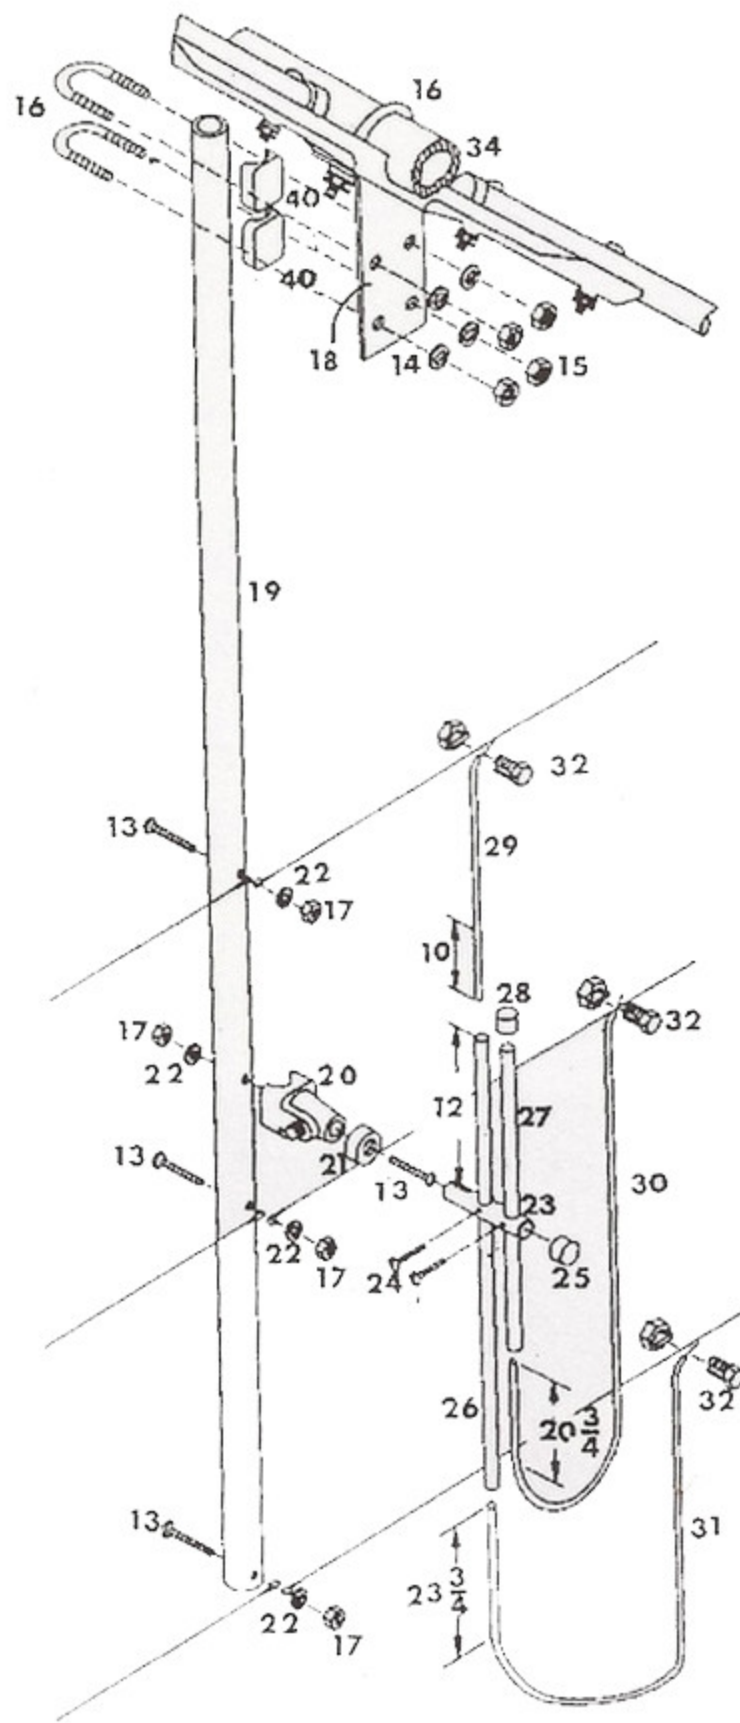

FIG. 2
RADIATOR GAMMA ASSEMBLY: (See Fig. 2)
- Loosely install the gamma angle bracket (18) to one of the Radiator spreaders with U-bolt (16) as shown in Fig. 2.
- Place three screws (13) in holes of the gamma support mast (19), as shown in Fig. 2.
- Loosely install lockwashers (22) and nuts (17) on screws (13). These screws will be used to secure the 10, 15 & 20 meter Radiator wires in a later assembly.
- Place screw (13) through hole in plastic gamma base (20), and gamma support mast (19) securing with lockwasher & nut (22 & 17).
- Press caplug (21) over gamma base (20).
- Slide the small condenser tube (27) into hole $\frac{1}{2}$ " from end of gamma bracket tube (23) to a length of 12" as shown in Fig. 2 and secure with screw (24).
- Press caplug (28) on top of small condenser tube (27). See Fig. 2.
- Slide large condenser tube (26) into remaining hole of gamma bracket tube (23) to a length of 12" as shown in Fig. 2, and secure with screw (24).
- Press caplug (25) on end of gamma bracket tube (23).
- Telescope end of bracket tube (23) through hole of caplug (21) and into hole in gamma base (20), (See Fig. 2). Be sure heavy wire is between set screw and gamma bracket tube (23).
- Align condenser tubes parallel to gamma support mast (19). Secure set screw on side of plastic gamma base (20).
- Install the gamma support mast assembly to gamma angle bracket (18) with U-bolts (16), lockwashers (14), clamping blocks (40) and nuts (15). See Fig. 2.
STRINGING WIRE FOR RADIATOR: (See Figs. 2 & 3)
- From one of the 40 foot rolls of wire (35) cut the Radiator 10 meter wire to a length of 35 Feet 8 inches.
- Beginning at the gamma support mast (See Figs. 2 & 3) wrap 2" of wire around screw (13) and twist wire to form loop.
- Dress wire through center holes of all four insulators (3) and back to screw (13) of gamma support spreader. Allow 2" of wire to wrap around screw (13) then twist wire to form loop. Secure nut (17) to hold wires in place.
- From one of the 55 foot rolls of wire (36) cut the 15 meter Radiator wire to a length of 47 feet 7 inches.
- From one of the 75 foot rolls of wire (37) cut the 20 meter Radiator wire to a length of 69 feet 1 inch.
- The 15 & 20 meter wires are assembled in the same manner described above and as shown in Figs. 2 & 3. Substitute insulators (8) and (11) for (3).
- Slide 10" of the 10 meter gamma wire (29) which is 31" long, in top of condenser tube (26), as shown in Fig. 2. Wrap electrical plastic tape around condenser tube and gamma wire to secure.
- Slide 23 3/4" of the 20 meter gamma wire (31), which is 61 1/2" long into bottom of condenser tube (26) as shown in Fig. 2. Wrap with electrical plastic tape to hold in place.
- Slide 20 3/4" of the 15 meter gamma wire (30) which is 43 1/2" long into bottom of condenser tube (27), as shown, and wrap with electrical plastic tape to hold in place.
- Attach the other end of the 10 meter gamma wire to the 10 meter Radiator wire with split bolt connector (32), as shown in Fig. 2. Measure 20 3/4" from center of screw on gamma support mast to center of split bolt connector and gamma wire, as shown in Fig. 3, and secure connector (32). Attach the other gamma wires for 15 & 20 meters to the respective 15 & 20 meter Radiator wires as shown in Figs. 2 and 3.